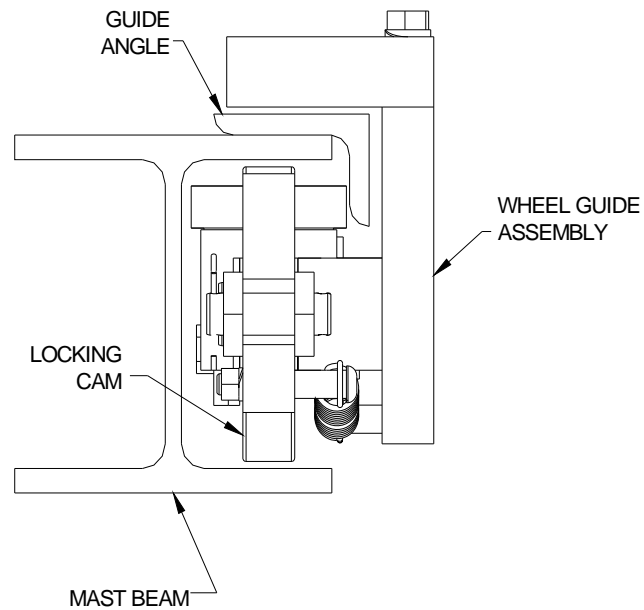

Figure 19a Upper Wheel Guide Assembly in Mast Beam (Top View)
2. Slide each Left and each Right wheel guide assembly inside its respective mast beam from the bottom as shown in **Figure 19a** (with the locking cams facing up), clamping each into place while setting the carriage.